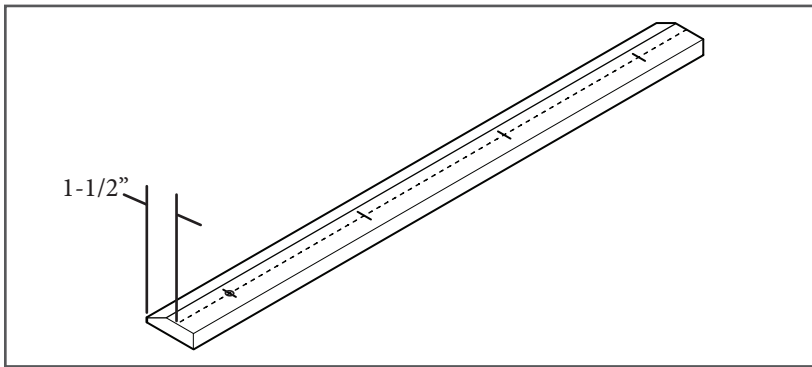

Figure 2
4. Measure four evenly spaced areas along the cleat line made in step 1, utilizing studs where possible (Figure 2).